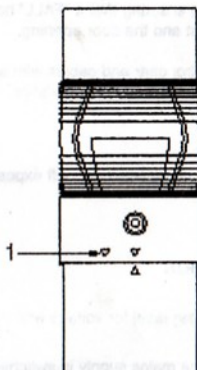

Fig 1.
- BOLLARD** - Unscrew head locking bolt, rotate head in anti-clockwise direction until triangle (1) on head aligns with indent on post door, see Fig. 1. Lift head upwards to remove.